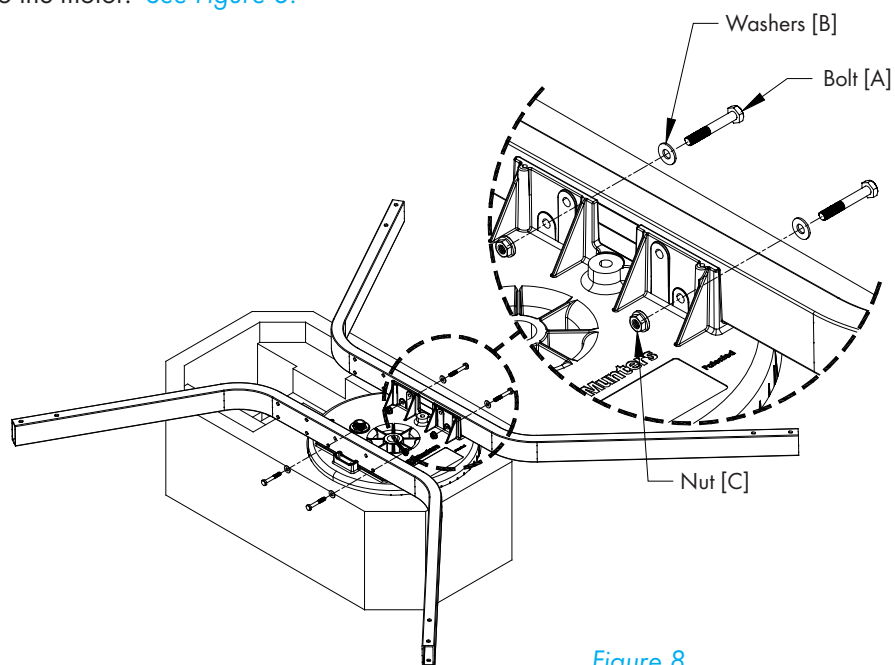

Figure 8
Fasten Struts to Motor using (4) Bolts [A], Washers [B] and Nuts [C] in the outer holes closest to the motor. See Figure 8.